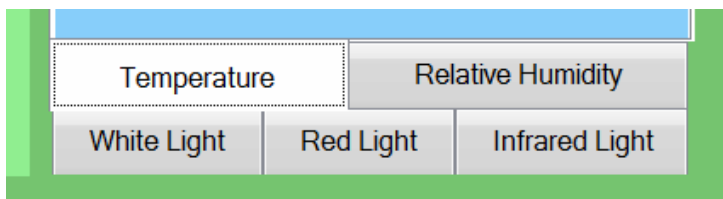

Figure 17 Tabs in the list of phases
- Choose a tab, containing the parameter to be added to a new phase, from the list of phases (Figure 17) .